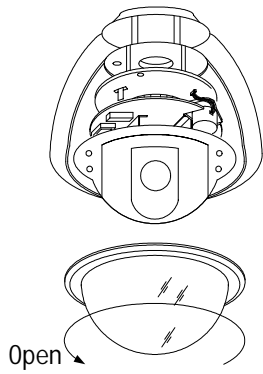

Figure 6
- 2) Rotate the vitreous cover counterclockwise and take out it. (see Figure 6) Note: It can be ignored the steps 2,3,4,5 while the protocol and address are matching with the controller.